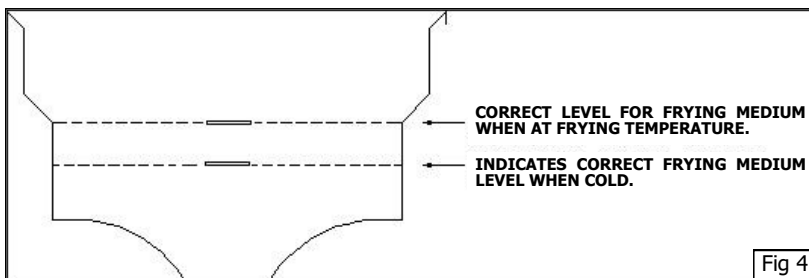

Fig 4
- To speed up this process, break up the shortening and stir carefully during the melting process. Add more shortening until the tank is filled to the level marked on the tank side. Refer to Fig 4 above.